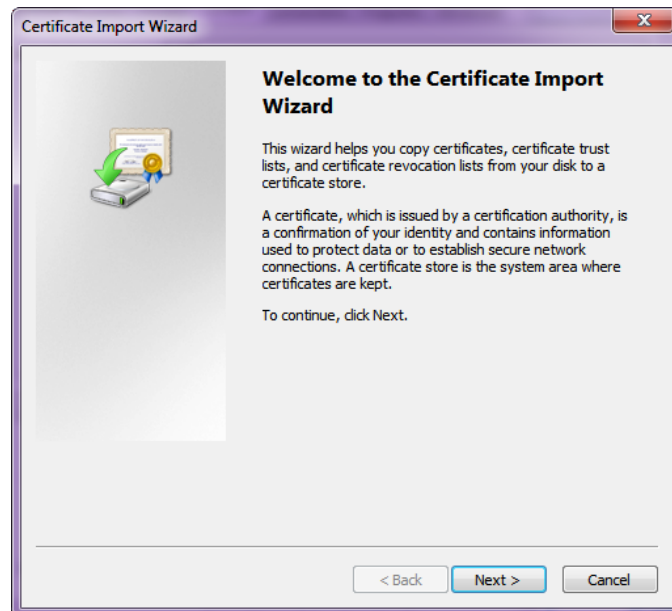

Figure 54: First Dialog of the Certificate Import Wizard
5. The first screen of the Certificate Import Wizard appears (Figure 54). Click Next.